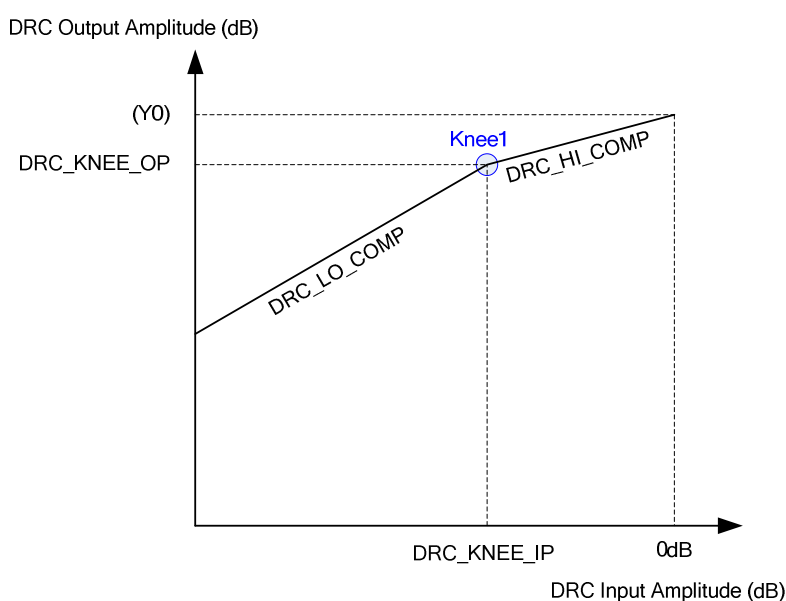

Figure 2 DRC Basic Response Characteristic
The basic DRC operation does not use the noise gate (NG) function and Knee2 has no effect as shown in Figure 2.